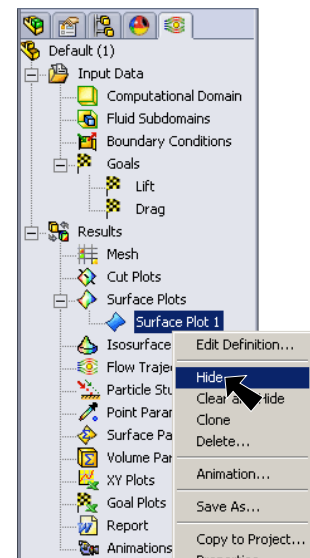

Fig. 23
Step 4. After viewing the surface plot, expand **Results** in Flow Simulation tree, **right click Surface Plots 1** and click **Hide**, Fig. 23.